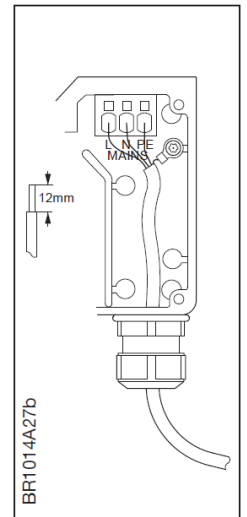

Fig. 3-12.2
- On 1-phase NI-DV units, connect the power cable to the terminals marked "L", "N" and "PE" (see fig. 3-12.2).